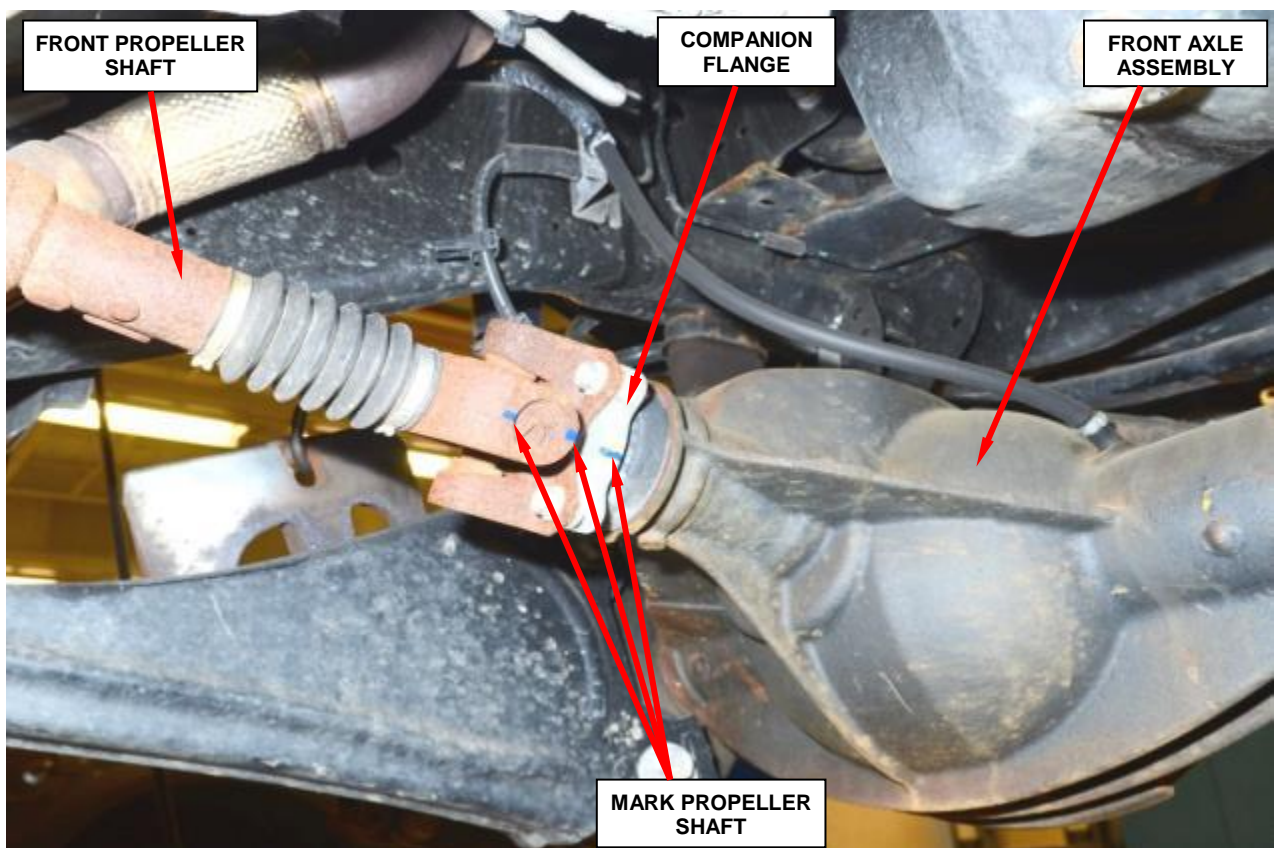

Figure 39 – Mark Front Propeller Shaft
11. **For vehicles with four wheel drive**, mark and then disconnect the front propeller shaft from the front axle companion flange (Figure 39).